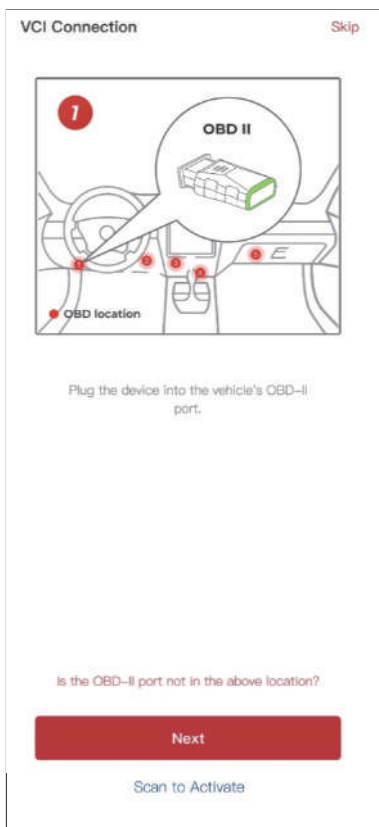

Figure 3-4
- ① Follow the on-screen instructions to plug the DS200 into the vehicle's DLC. Then tap **Next** (See Figure 3-4).